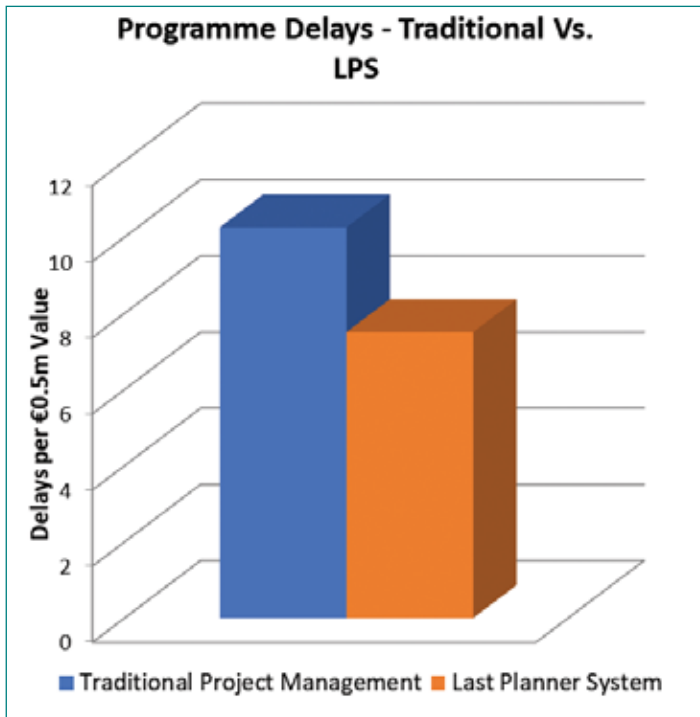

Figure 2. Impact of LPS on Programme
Programme was analysed by comparing the planned Practical Completion (PC) date to the actual PC date. Figure 2 shows that the introduction of LPS contributed to a 27% reduction in programme delays across all projects.